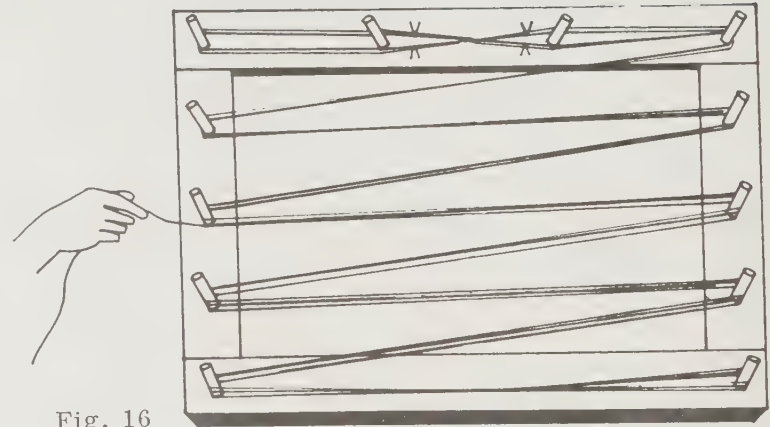

Fig. 16
4. Continue this way until enough warp has been measured off. NOTE: Every cross represents double the number of threads you are using to make your warp. For example, if one warp end is being wound, each cross represents two warp ends—one working up the board, the other, down. If two warp ends are being used together, each cross represents four warp ends. And so on. See Fig. 16.